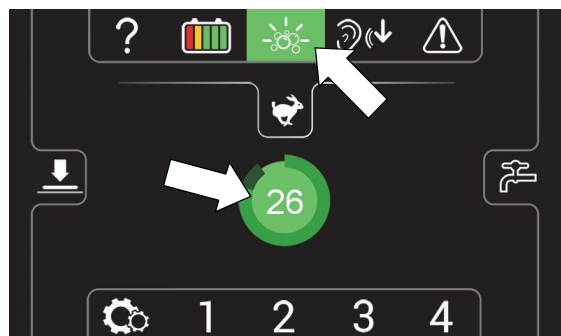

FIG. 53
6.  Models equipped with Severe Environment option - Press the Severe Environment icon once to dispense cleaning detergent for 30 seconds. The icon will turn green and a 30 second count down timer will start. For continuous dispensing of detergent, press and hold the icon for 2 seconds until a continuous timer is displayed. Press the icon at anytime to turn off. (Figure 53). The icon will blink yellow when the severe environment tank needs to be refilled.